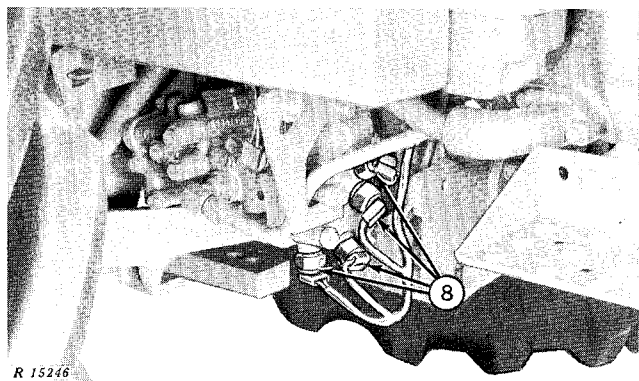

Fig. 10—Power Front Wheel Drive Switches
8. On tractors with Power Front Wheel Drive, remove cover and disconnect wiring harness from switches (Fig. 10).